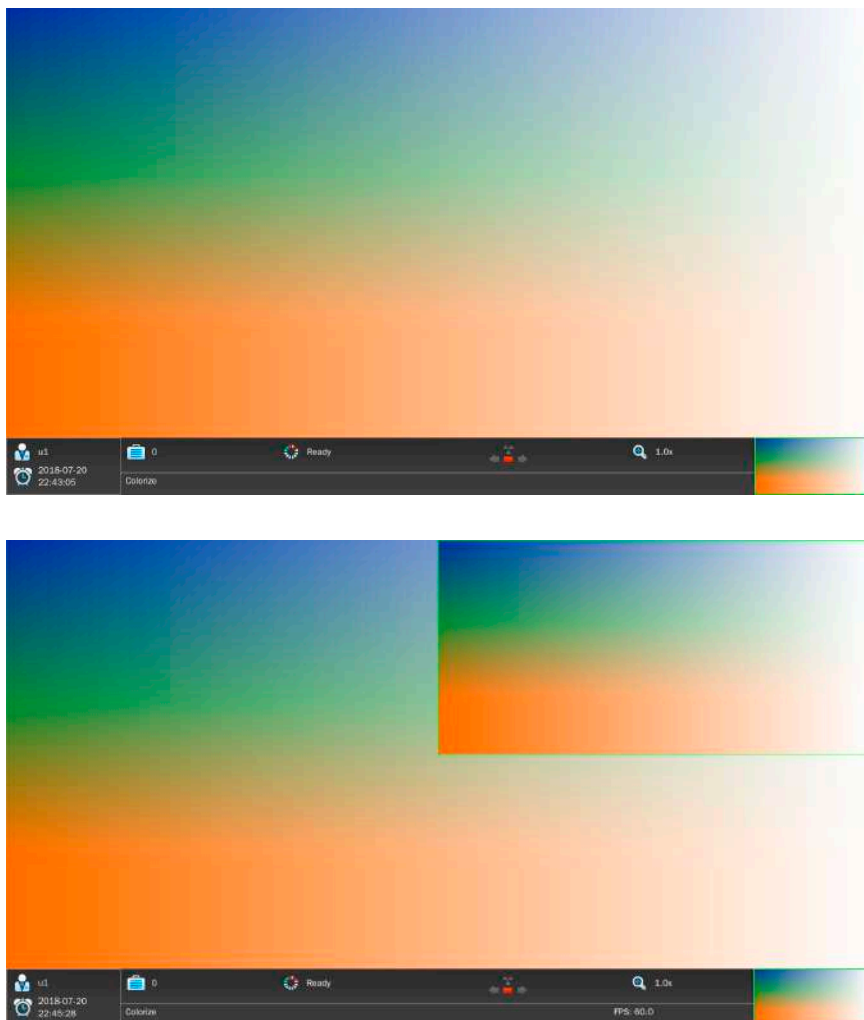

Figure 5-3 System Ready after Successful Login
Step 4 After you log into the system successfully, the system become ready, as shown in Figure 5-3.